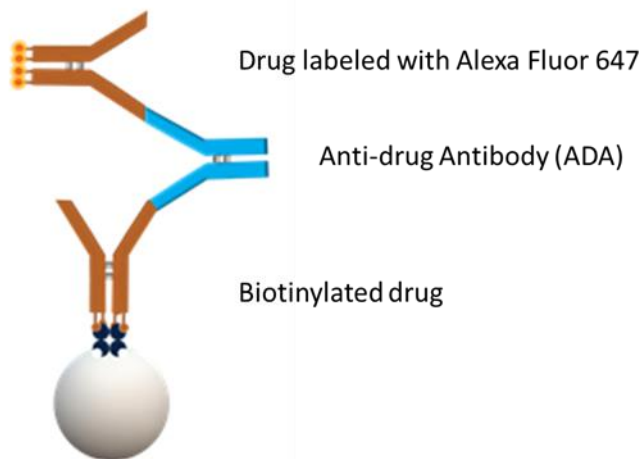

Figure 1. Detectable complex bound to a streptavidin-coated bead in a homogeneous bridging assay
The ADA assay format we recommend for use on a Gyrolab® system is a homogeneous bridging format, which detects ADAs of all isotypes and is not species dependent. This means that it can be used for both pre-clinical and clinical studies. In this assay format, the drug is used as both capture (biotinylated) and detection (fluorescently labeled) reagent (combined to form a Master Mix) and the sample and the reagents are mixed before addition to the streptavidin columns on Gyrolab Mixing CD 96 or Gyrolab Bioaffy CD. A number of different complexes will be formed in this mixture. Complexes formed by ADA or the positive control (PC) bridging between the biotinylated drug molecule and the drug molecule labeled with Alexa Fluor® 647 will bind to the streptavidin coated beads in the CD column and be detected in the assay (see Figure 1).